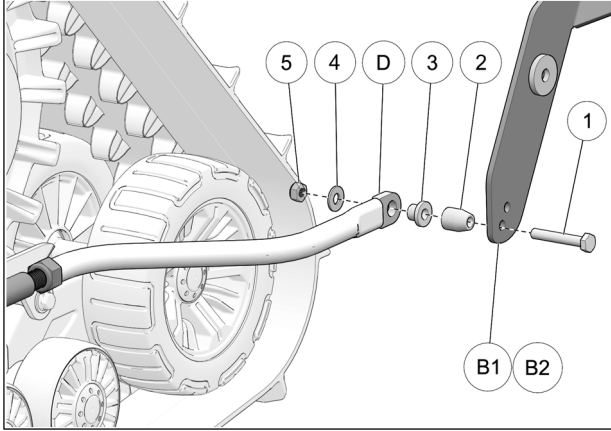

Fig. 11
11. Attach the rear suspension stabilizing rod (D) to the anchor bracket (B1-B2), in the lower hole position, using bolt (1), tapered end bushing (2), flange bushing (3), washer (4), and locknut (5). Torque bolt to 50 Nm [37 lb-ft]. Fig. 11